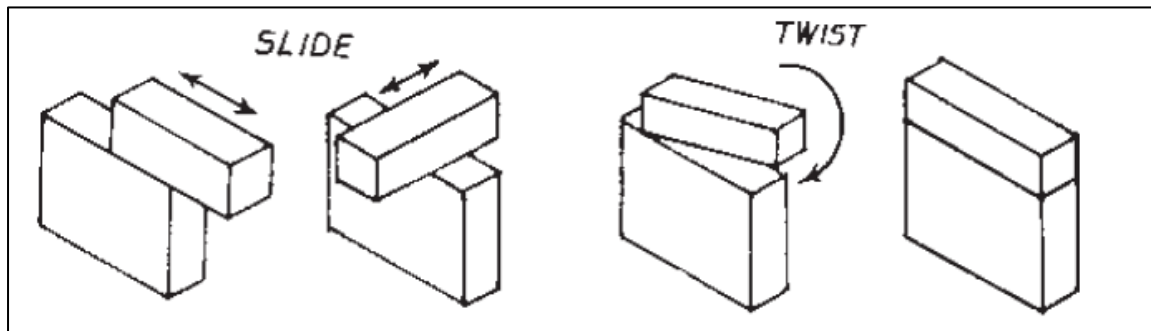

Fig. 5 Wringing of slip gauges
- The recommended procedure for wringing a pair of slip gauges together is as follows and shown in the Fig. 5.